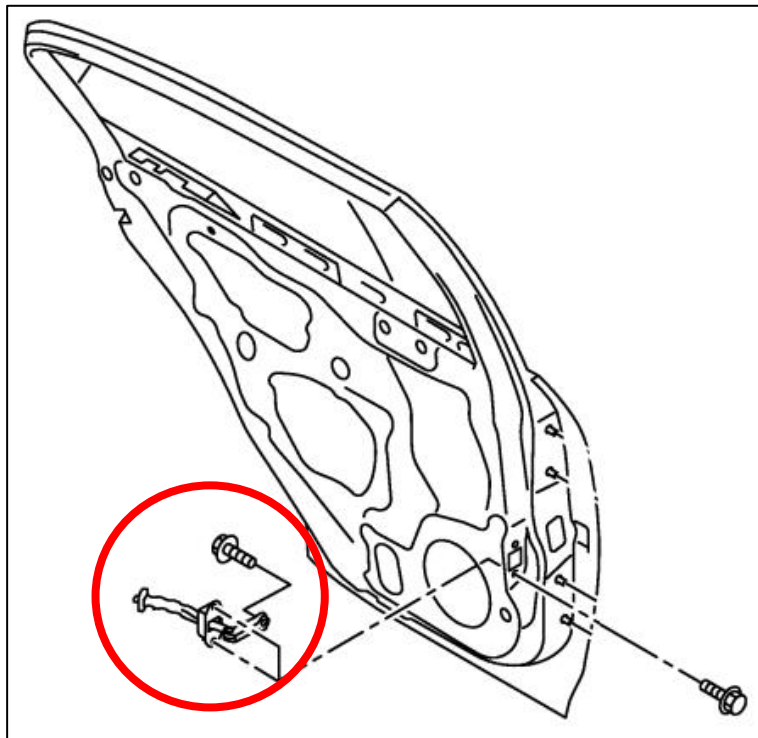

Figure 74
12. Once the bolts are removed, pull the Check Link through the Speaker hole in the door. *Figure 74.*